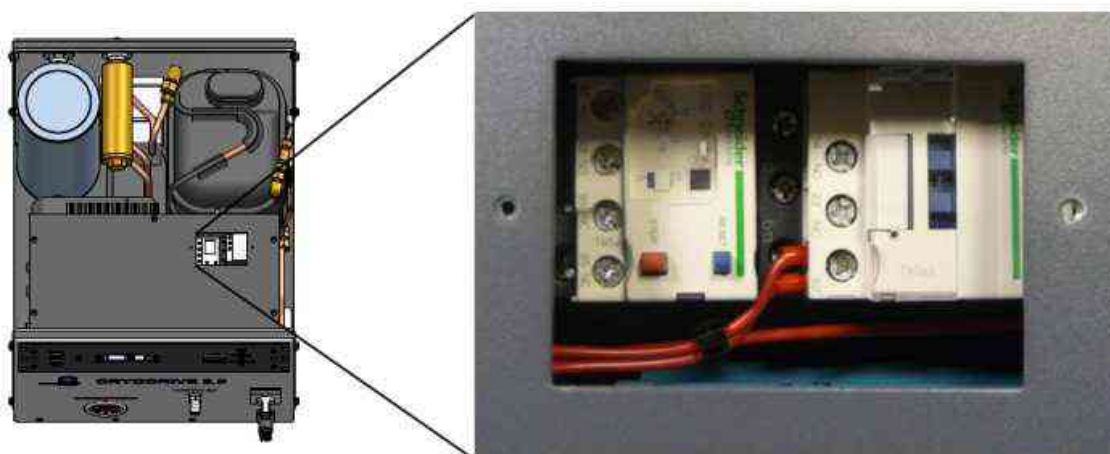

Figure 4 – Overload relay showing stop and reset button
- Locate the protection switch on the current-limit potentiometer which is situated in the CryoController, refer to Figure 4. The switch can be accessed by removing the lid of the CryoController unit.